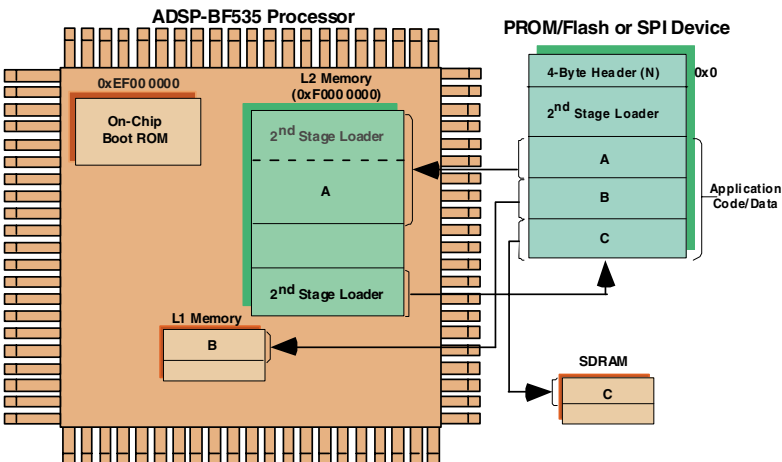

Figure 2-5. ADSP-BF535 Processors: Booting Application Code
3. The second-stage loader boots in the application code/data into the various memories of the Blackfin processor (Figure 2-5).